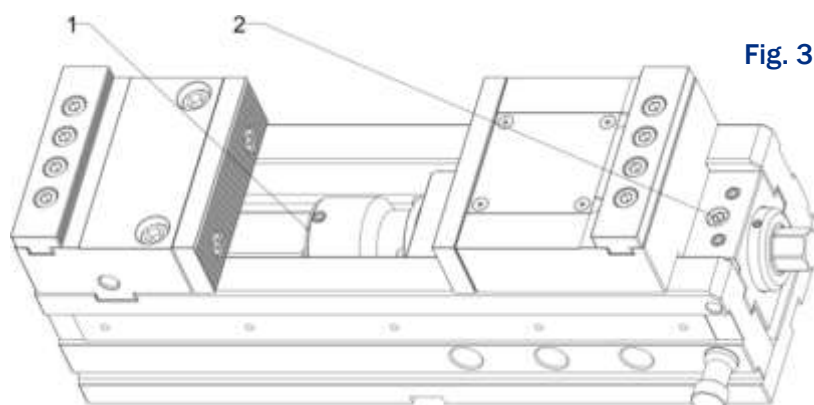

Fig. 3
At the end of the work, the chips on the vice must be removed. Every month, lubricate with Divinol T6 KA ISO 68 oil in the guideways' area. Each 6 months, lubricate the main screw bearing on the lubricator (2) and fill with grease the main screw thread zone, removing cover (1), see figure 3. SKF LGEM 2/0.4 grease should preferably be used.